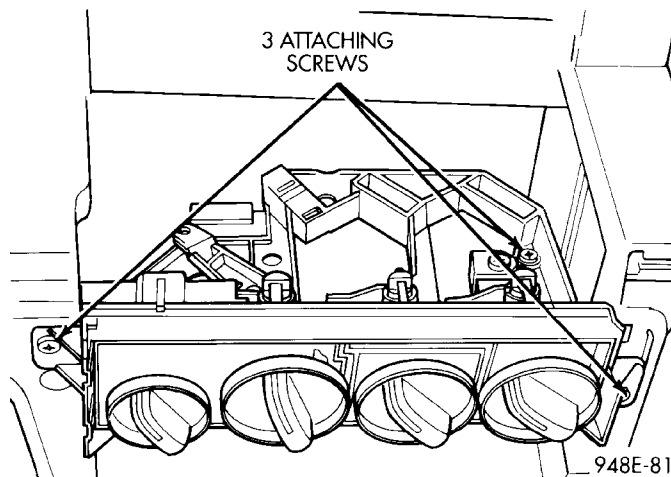

Fig. 22 HEATER A/C CONTROL
- (1) Remove the top cover and cluster bezel.
- (2) Reach in and disconnect the wiring connector(s) for the rear window defogger and/or fog lamp switch(s) as required.
- (3) Remove the six attaching screws across the forward portion of the trim panel. Then lift the flange forward to disengage the three locator pins.
- (4) Pull panel rearward disengaging the clips along the bottom.
- (5) Open the ash receiver.
- (6) Remove the center bezel.
- (7) Remove three attaching screws at corners of the control (Fig. 22).
- (8) Pull the control rearward and disconnect the wiring connector.
- (9) Using a screwdriver, disengage the cable attachment clips.